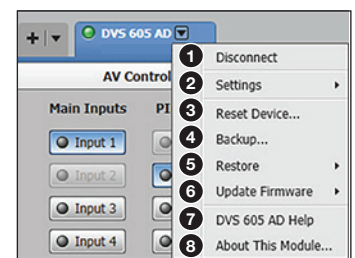

Figure 36. Device Menu
NOTE: For detailed software navigation, open the *DVS 605 Product Configuration Software Help* file from the Device Menu (see figure 36 on the next page).
This option disconnects the PCS program from the connected device and closes the device tab. From the Device drop-down menu, select **Disconnect** (see figure 36, ❶).
This option contains selectable reset modes for resetting the connected device. From the Device drop-down menu, select **Reset Device...** (see figure 36, ③ on page 61).
2. Select **Backup...** (see figure 36 on page 61, ④) from the Device drop-down menu. A Backup window opens.
2. Select **Restore...** (see figure 36 on page 61, ⑤) and then **Restore This Device** from the Device drop-down menu. A **Restore This Device** dialog box opens.
2. Select **Update Firmware** (see figure 36 on page 61, ⑥) and then **Update Firmware this Device...** from the Device drop-down menu. A dialog box opens to ask permission to disconnect from the device.